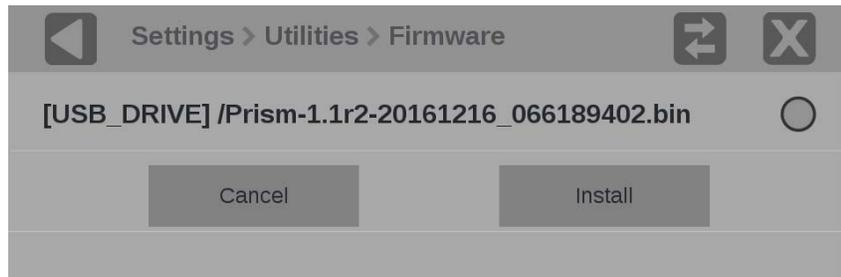

Figure 73: Select the firmware upgrade file
6. Select the required file in the list, and then select **Install** to start the upgrade. (See Figure 73.)